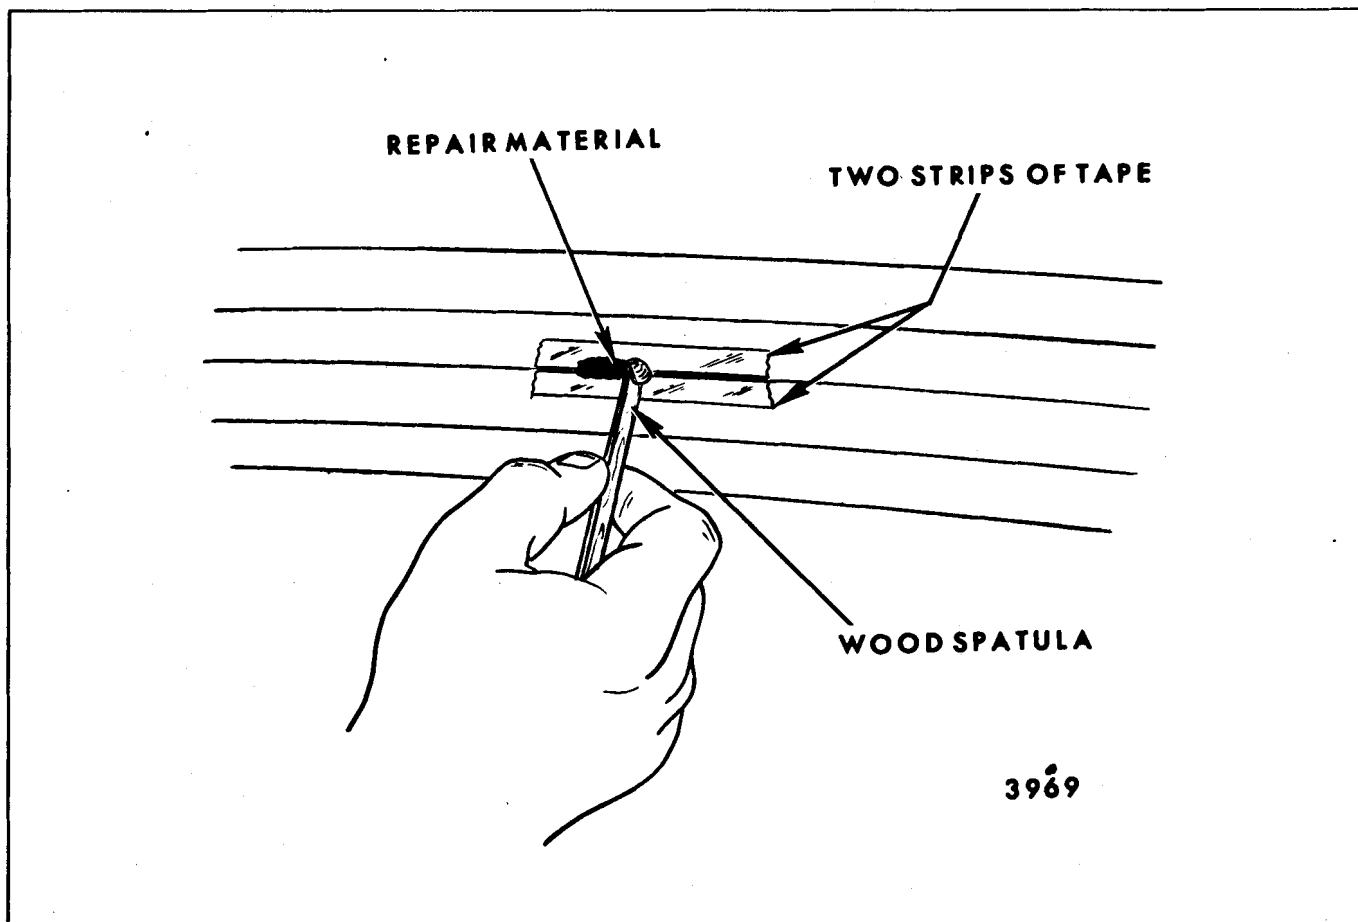

Fig. 15-67-Applying Repair Material to Broken Grid
7. With the glass at room temperature, apply the repair material with the small wooden mixing spatula, slightly over-lapping the existing grid line either side of the break (Fig. 15-67).